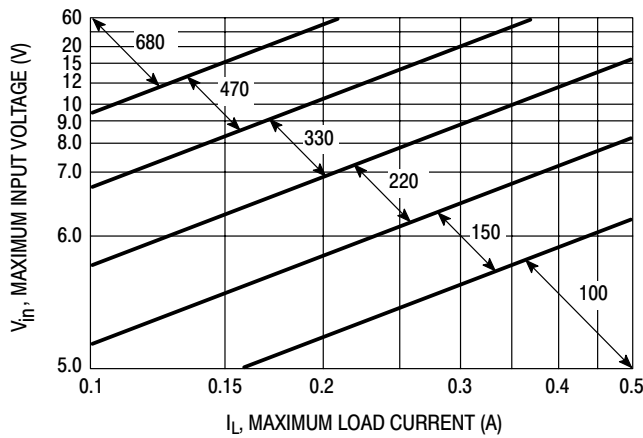
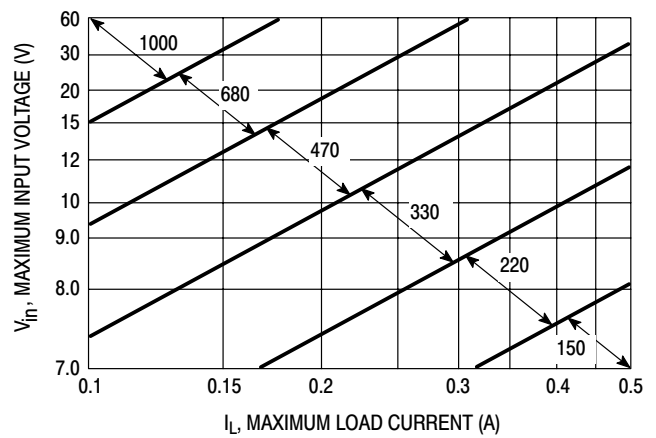

Figure 19. LM2574-3.3
Figure 20. LM2574-5
4. Inductor Selection (<math>L1</math>) A. According to the required working conditions, select the correct inductor value using the selection guide from Figures 19 to 23. B. From the appropriate inductor selection guide, identify the inductance region intersected by the Maximum Input Voltage line and the Maximum Load Current line. Each region is identified by an inductance value and an inductor code. C. Select an appropriate inductor from the several different manufacturers part numbers listed in Table 2. The designer must realize that the inductor current rating must be higher than the maximum peak current flowing through the inductor. This maximum peak current can be calculated as follows: $I_{p(max)} = I_{Load(max)} + \frac{(V_{in} - V_{out})t_{on}}{2L}$ where $t_{on}$ is the "on" time of the power switch and $t_{on} = \frac{V_{out}}{V_{in}} \times \frac{1.0}{f_{osc}}$ For additional information about the inductor, see the inductor section in the "EXTERNAL COMPONENTS" section of this data sheet.	4. Inductor Selection (<math>L1</math>) A. Use the inductor selection guide shown in Figure 20.  B. From the selection guide, the inductance area intersected by the 15 V line and 0.4 A line is 330.  C. Inductor value required is 330 $\mu$ H. From Table 2, choose an inductor from any of the listed manufacturers.
To simplify the inductor selection process, an inductor selection guide for the LM2574 regulator was added to this data sheet (Figures 19 through 23). This guide assumes that the regulator is operating in the continuous mode, and selects an inductor that will allow a peak-to-peak inductor ripple current to be a certain percentage of the maximum design load current. This percentage is allowed to change as different design load currents are selected. For light loads (less than approximately 0.2 A) it may be desirable to operate the regulator in the discontinuous mode, because the inductor value and size can be kept relatively low. Consequently, the percentage of inductor peak-to-peak